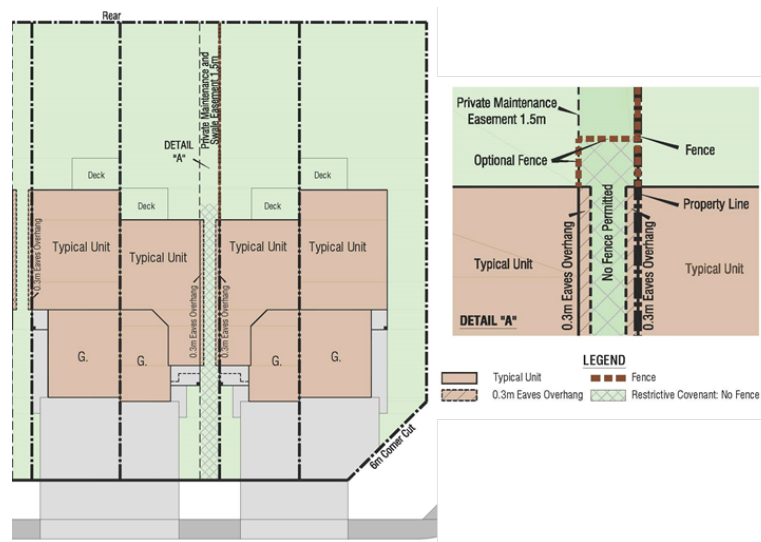

Figure 4: Fencing Plan – Zero Lot Line Front Drive Duplex Product Lots
- 12.3.6 Sideyard fencing for zero lot line front drive duplex product is to be installed as shown in **Figure 4: Fencing Plan - Zero Lot Line Front Drive Duplex Product Lots.**